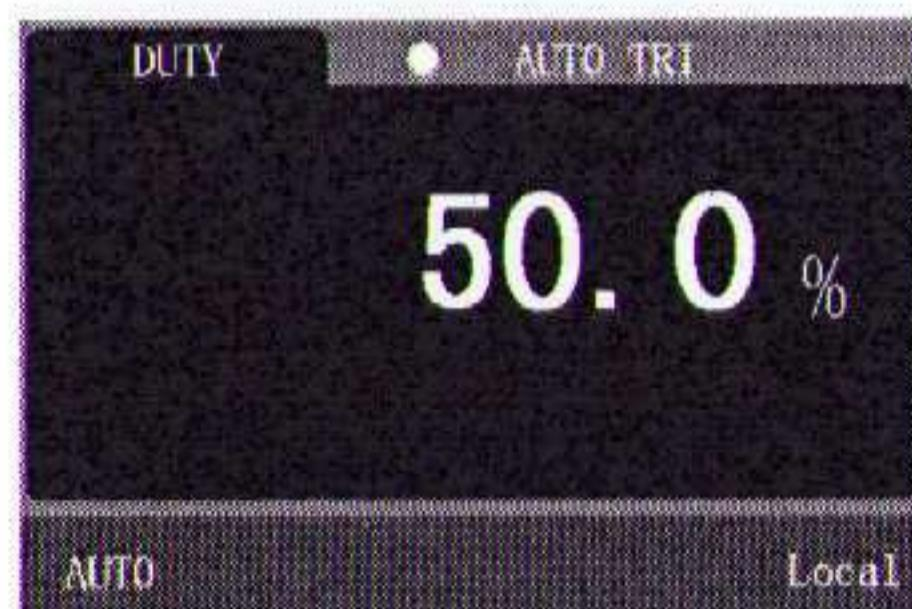

Figure 4-25 Measurement interface
1. Press **DUTY HOLD** to select the duty cycle measurement function. The measurement interface is shown in Figure 4-25.